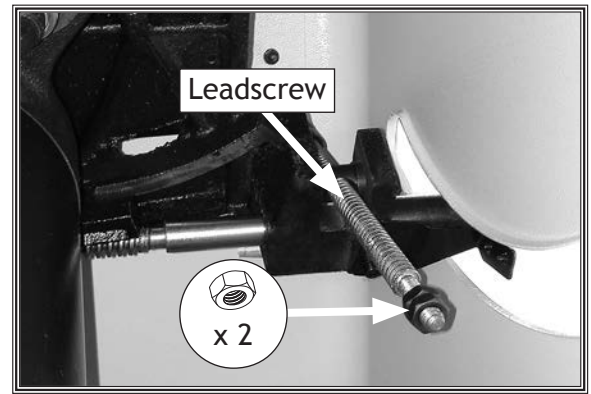

Figure 100. Location of 90° stop nuts.
5. Loosen (2) M8-1.25 hex nuts on leadscrew (see **Figure 100**).